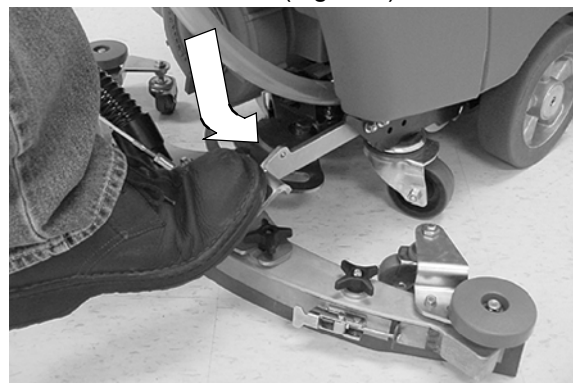

FIG. 6
2. Step down on the scrub head lift pedal to raise the scrub head off the floor (Figure 6).